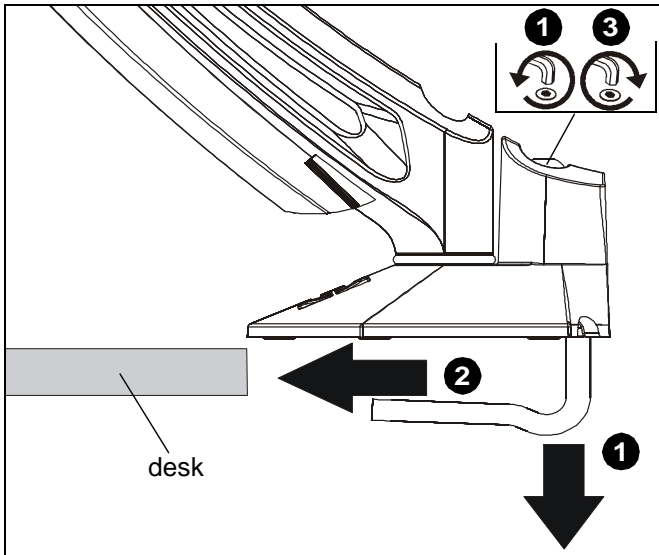

Figure 5
1. Loosen clamp screw until enough space is created between clamp and mount to allow for desk mounting. (See Figure 5)
2. Place mount on top of desk at desired mounting location. (See Figure 5)
3. Tighten clamp using clamp screw until mount is securely fastened to desk. (See Figure 5)